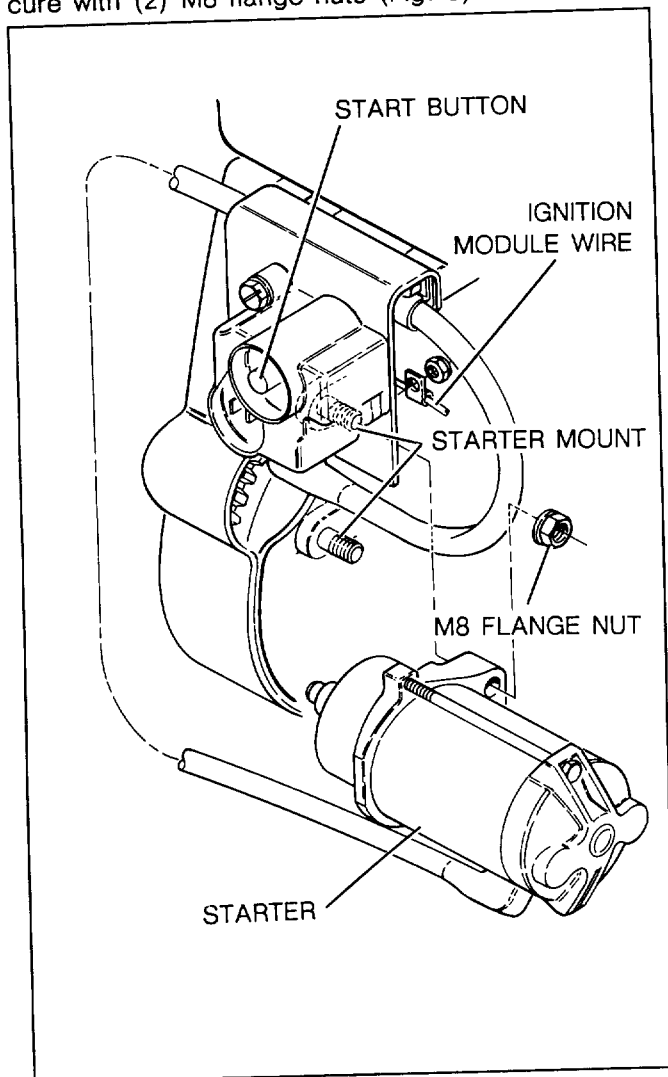

Figure 5
5. Mount starter motor assembly to engine and secure with (2) M8 flange nuts (Fig. 5).